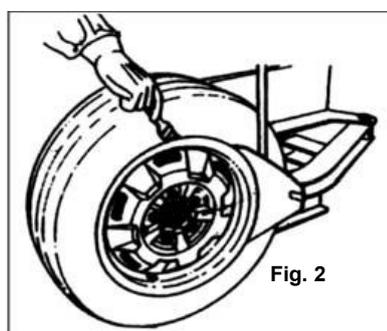

Fig. 2
- The tyre should be pushed as far as possible towards the drop centre. The tyre bead and rim flange must be sufficiently coated with mounting paste (Fig. 2). Sufficient use of mounting paste facilitates the removal and mounting of tyres and reduces the stress on the machine.